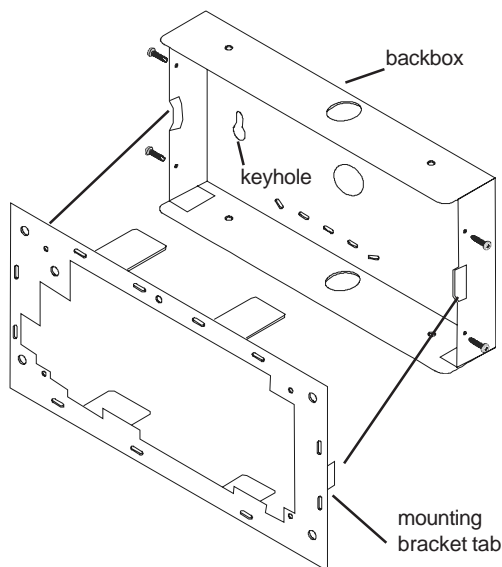

Figure 3: Mounting Bracket and Backbox
1. Remove the four (4) screws securing the metal cover to the annunciator backbox, remove the cover with clear plastic screen and set aside.
2. Remove the rubber display/label holder, ANN-(R)LED module and mounting bracket as a single unit by sliding the two tabs on the side of the mounting bracket, away from the backbox (refer to Figure 3).